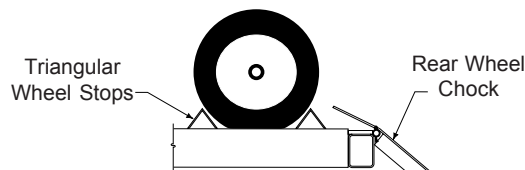

Fig. 1
3. Drive vehicle onto lift and stop when vehicle's front wheels are centered on turning radius gauges. On lifts not used for wheel alignment, stop vehicle when it contacts the front wheel stops. At all times, be sure rear wheels are forward of the ramp/chocks and the ramp/chocks will clear tires when the lift is raised, Fig. 1. Driver and passengers must exit before raising.
4. Place triangular wheel chocks on each side of one of the rear tires, Fig. 1.
13. Fully lower lift, remove the triangular wheel chocks and check to be sure area is clear before removing vehicle from lift, Fig. 1.